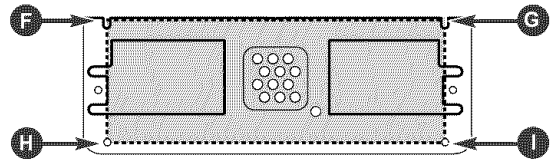

Figure 28
1. Using the Wall-template. This template will give the location and size of the box cutout for the rear wall duct, as described in step 5 item 1 (page 15).
2. Using a pencil, put dots through slots "F" and "G", and through holes "H" and "I". Remove the mounting plate and draw lines extending through the points. This will give the location and size of the box cutout for the rear wall duct. See Figure 28.